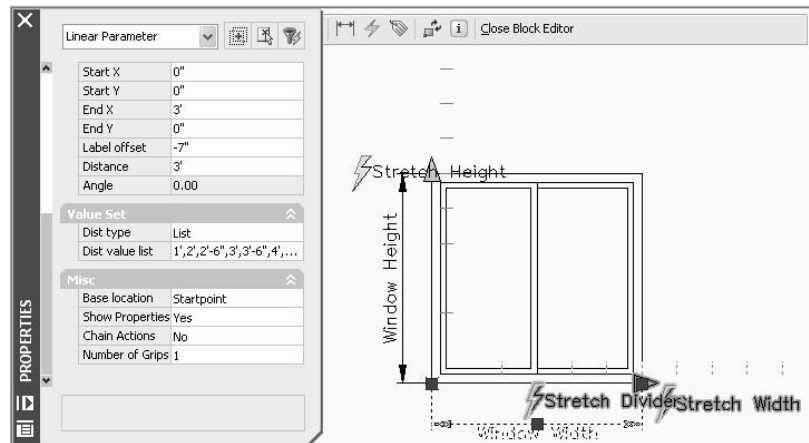

FIGURE C.8: The Properties palette with the Window Width parameter selected in the Block Editor
2. Scroll down to the Value Set section. The Dist Value List line displays the increments of the preset window widths (see Figure C.8).